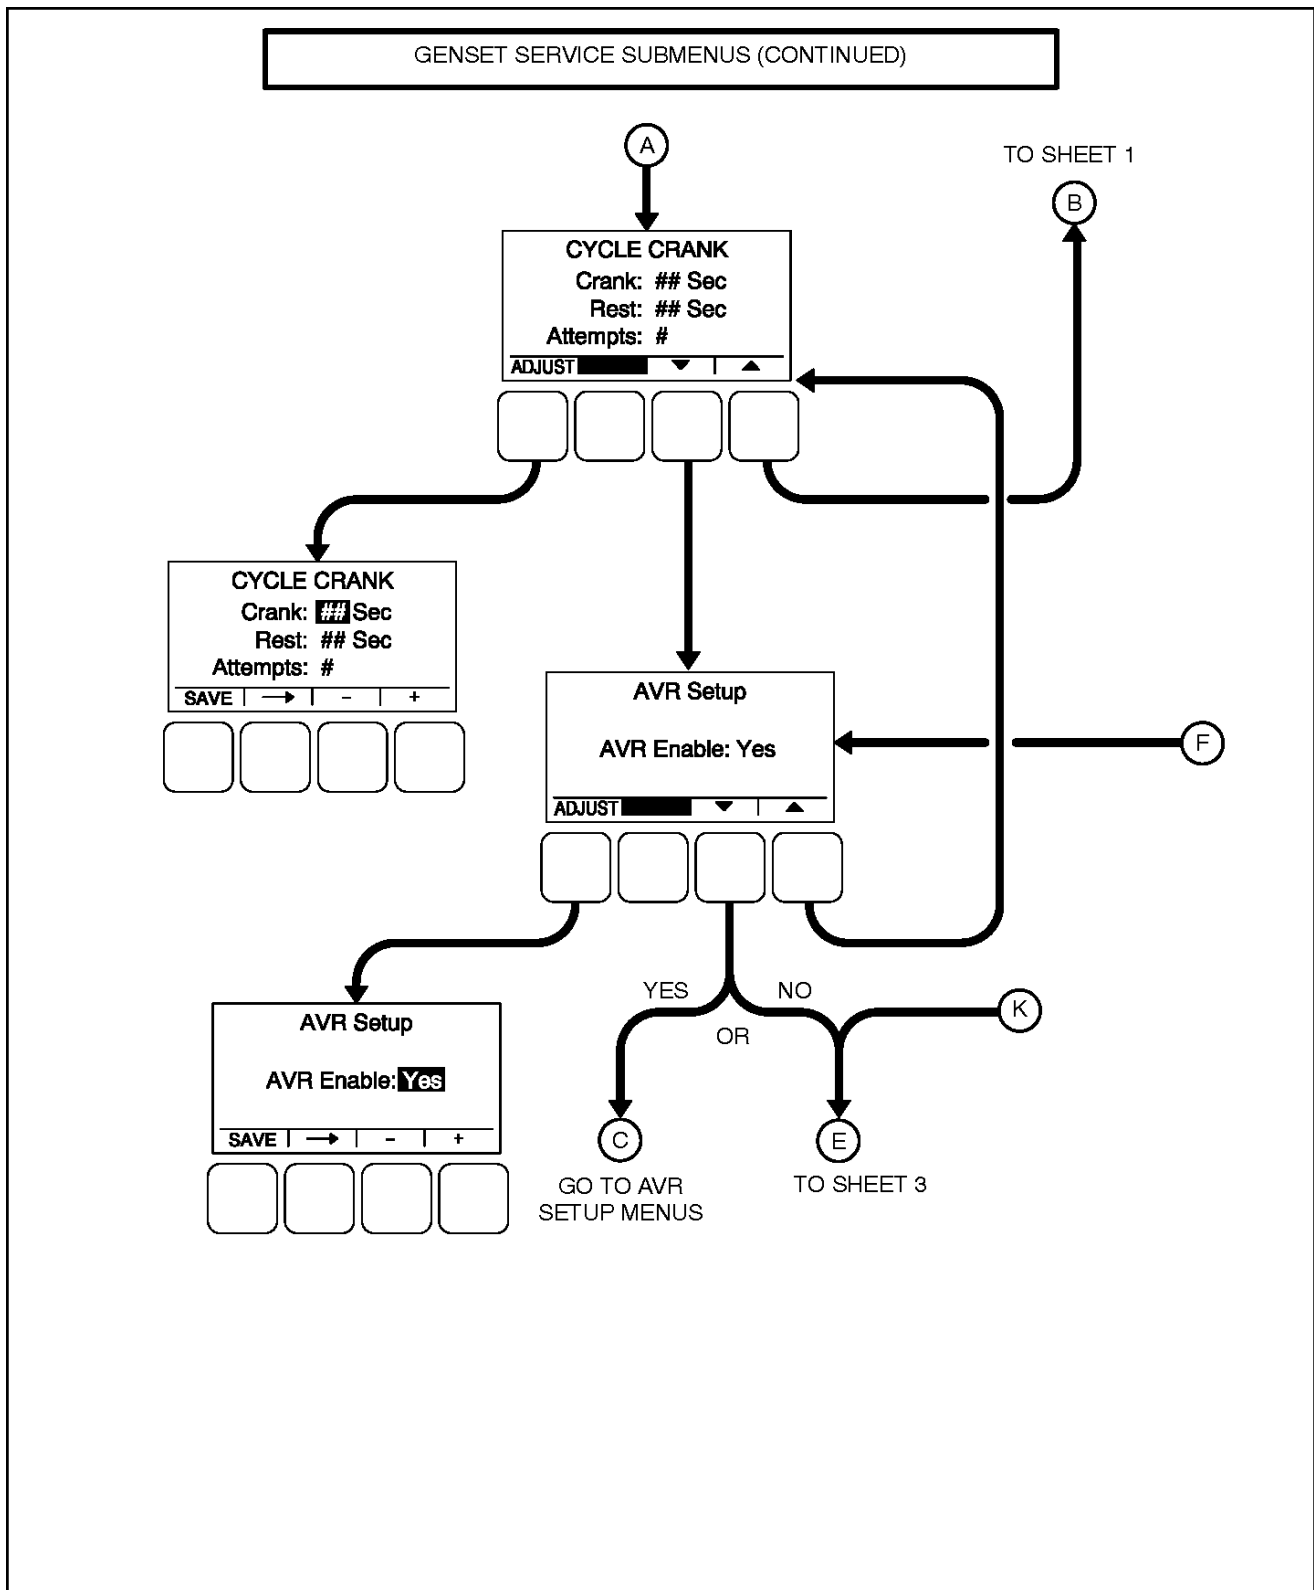

FIGURE 54. GENSET SERVICE - CYCLE CRANK AND AVR SETUP SUBMENUS
- Cycle Crank (Figure 54 on page 99)
- Automatic Voltage Regulator Setup (Figure 54 on page 99)
The Cycle Crank menu (Figure 54 on page 99) allows for configuring the generator for all starting modes (manual and remote), as follows:
The AVR Setup menu (Figure 54 on page 99) is used to enable or disable the automatic voltage regulator. If enabled, two additional menus are displayed that can be used to adjust the AVR settings (see Section 8.3.4 on page 103).